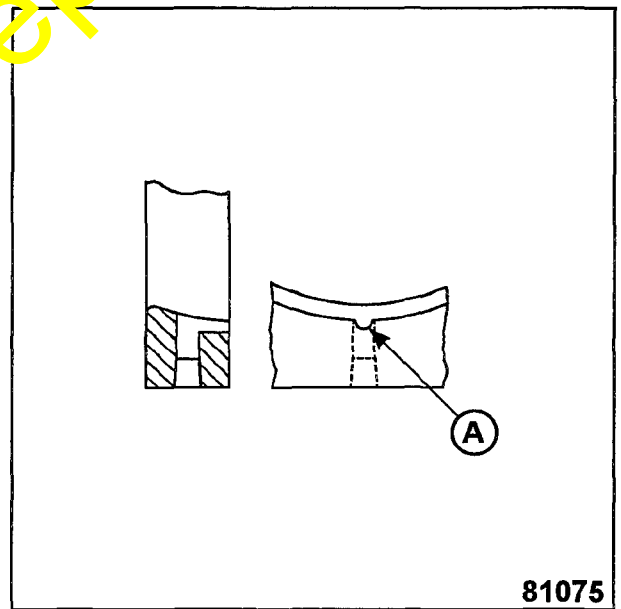

Figure 8
6. Check ball cap for existing groove from the shim pack side of the ball cap to the grease hole (A) Figure 8. If groove is none existent, ball cap can be reworked per instructions in **PARTS & SERVICE NEW AA97017.**